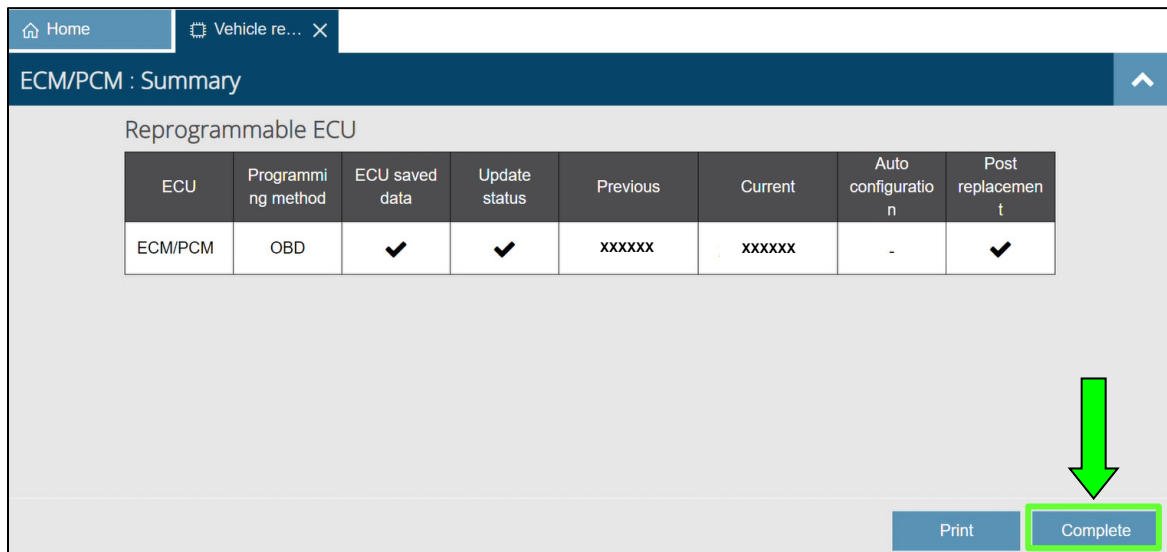

Figure 31
33. Print a copy of Figure 31, and then attach it to the repair order.